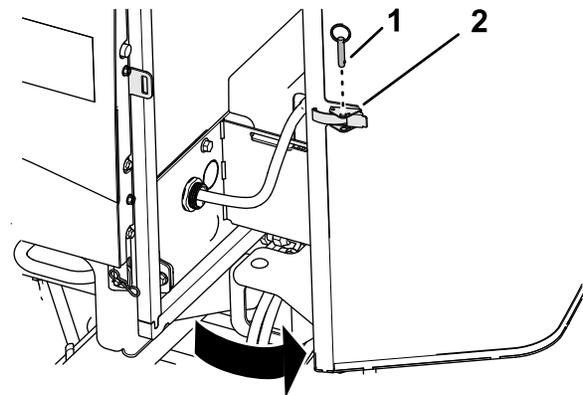

Figure 60
1. Remove the ball pin from the screen latch (Figure 60).